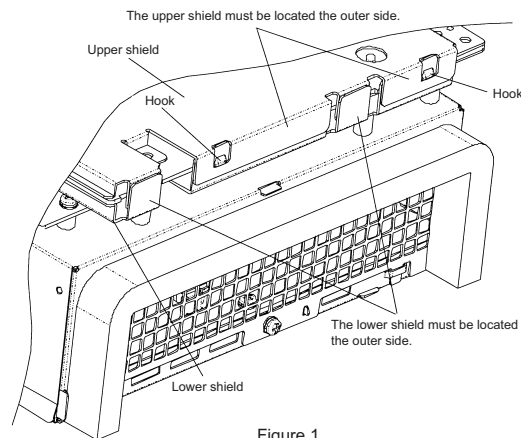

Figure 1
NOTE: (1) You must pay attention to the fitting direction of the upper and lower shields (both sides). (Figures 1 and 2)